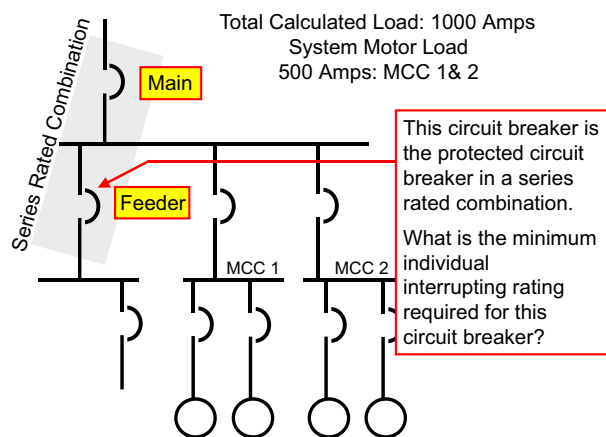

Figure 7
As an example of the implications of 240.86(C) look at Figure 7. On an installation with a 1000A total load, 50% motor load (which is motor load of 500A), the motor contribution could be an issue in selecting a series rated combination. If a main/feeder series rating were to be considered, the feeder circuit breaker must have at least a 50,000A individual or stand-alone interrupting rating per 240.86(C) (1% of 50,000 = 500). If the protected circuit breaker has to have an individual interrupting rating of at least 50,000A, it negates the reason that series rated combinations are utilized for most applications.
Below is an easy to use table to evaluate the “protected” (loadside) circuit breaker in a series rated combination for meeting the motor contribution limits in 240.86(C). In the Figure 7 example, the motors that are connected that could contribute current where the feeder circuit breaker (“protected” device of the series combination) would have to interrupt but that the main circuit breaker (“protecting” device of the series combination) would not have to interrupt is represented by 500A of normal full load current. Reading the table below, it is seen that 500A full load motor current exceeds 420A in column A. Therefore, a series rating with a “protected” circuit breaker having a stand-alone interrupting rating of 42,000 AIR is insufficient to meet 240.86(B). A series combination that uses a “protected” circuit breaker with a stand-alone interrupting rating of at least 50,000A would be required to meet 240.86(C). Note; do not confuse the stand-alone interrupting rating of the “protected” circuit breaker with the series combination interrupting rating. The series combination interrupting rating is the rating for both devices working together to interrupt short-circuit currents. The series combination interrupting rating is much greater than the stand-alone interrupting rating of the “protected” circuit breaker.